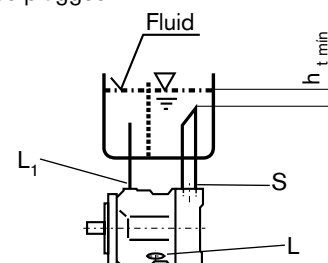

fig. 5
- b) Mounting below the tank see fig. 5; pipe port "L₁" and "S" and "L" to be plugged